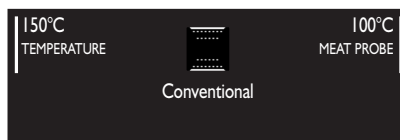

Fig. 3
- at the top right (zone 3) the desired core temperature of the food (meat probe, as indicated in fig. 3).